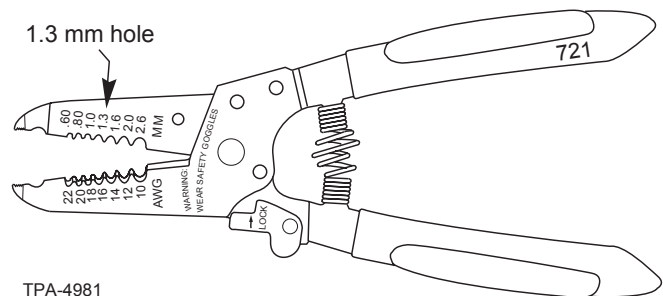
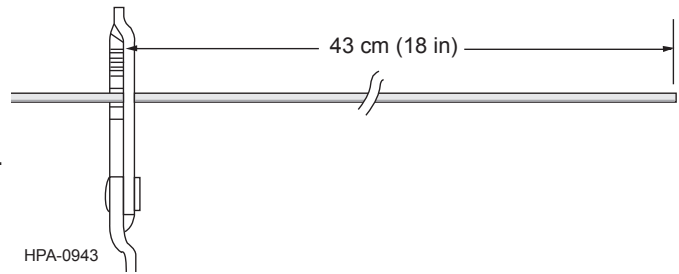

Figure 9
Figure 10
**Step 1:** Insert the buffer tube into the 1.3 mm opening of the Ripley/Miller 721 tool (Figure 9) approximately 18 in (45 cm) from the end of the tube as shown in Figure 10.